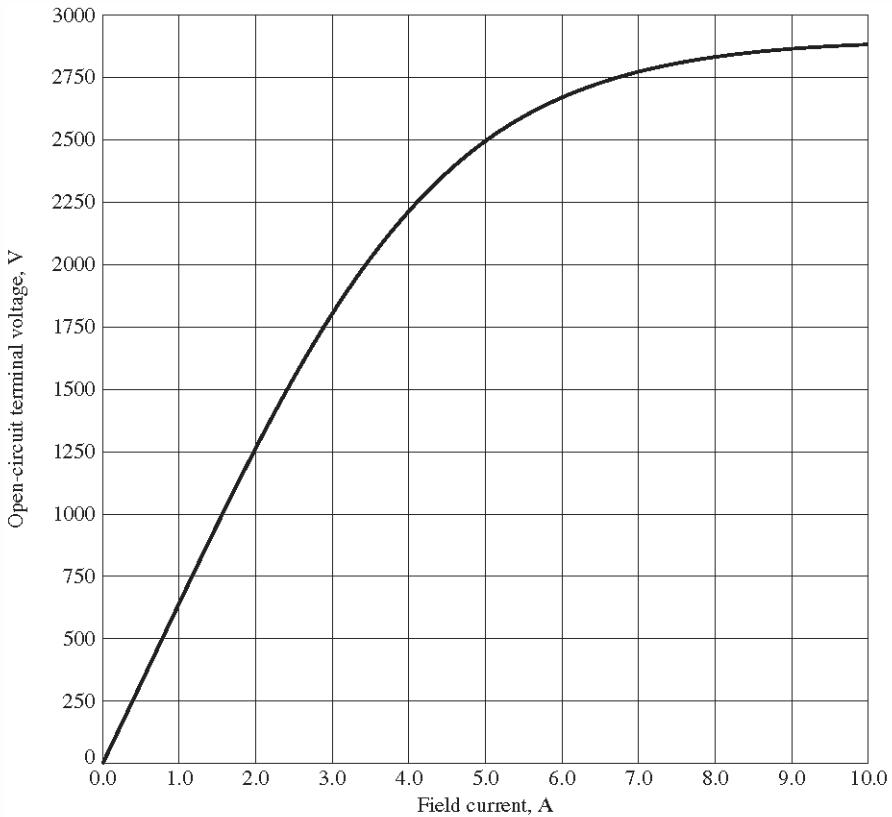

FIGURE P5-1
- 5-4.** A 2300-V 1000-hp 0.8-PF leading 60-Hz two-pole Y-connected synchronous motor has a synchronous reactance of **2.5 Ω** and an armature resistance of **0.3 Ω**. At 60 Hz, its friction and windage losses are 30 kW, and its core losses are 20 kW. The field circuit has a dc voltage of 200 V, and the maximum I_F is 10 A. The open-circuit characteristic of this motor is shown in Figure P5-1. Answer the following questions about the motor, assuming that it is being supplied by an infinite bus.
- 5-5. Plot the V-curves (I_A versus I_F) for the synchronous motor of Problem 5-4 at no-load, half-load, and full-load conditions. (Note that an electronic version of the open-circuit characteristics in Figure P5-1 is available at the book's Web site. It may simplify the calculations required by this problem.)